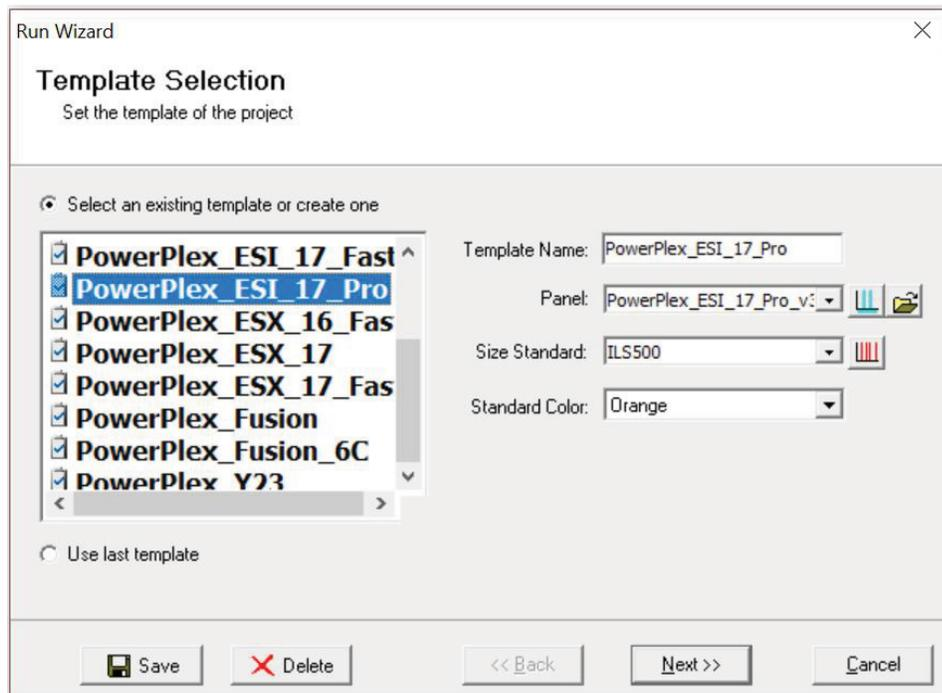

Figure 28. The 'Template Selection' window.
- Click on **Run** in the Magic Wizard or click the **Run Project** icon (green arrow) in the toolbar. The 'Template Selection' screen will appear (Figure 28). Select the PowerPlex_ESI_17_Pro template and the settings shown in Figure 28. Verify the panel that you created in Step 6 is selected in the Panel drop-down field. The Size Standard must be ILS500 and the Standard Color must be Orange. Select **Next**.